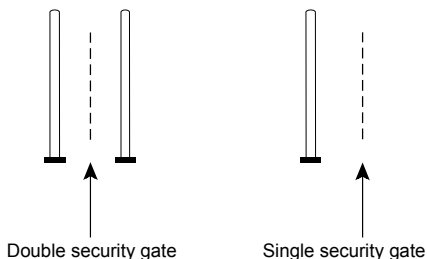

Figure 2. Approaching security gates.
2. If patients must pass through the theft detector or security screening device, they should turn off their neurostimulator, approach the center of the device and walk through normally (Figure 2).